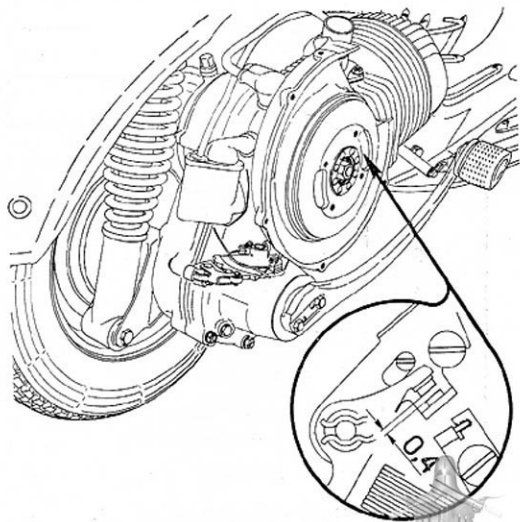

Fig. 14 - Adjustment of breaker points scooterhelp.com
5) - Clean and adjust the breaker points of the flywheel magneto, (see fig. 14), to .4 mm. gap (.015 in.).